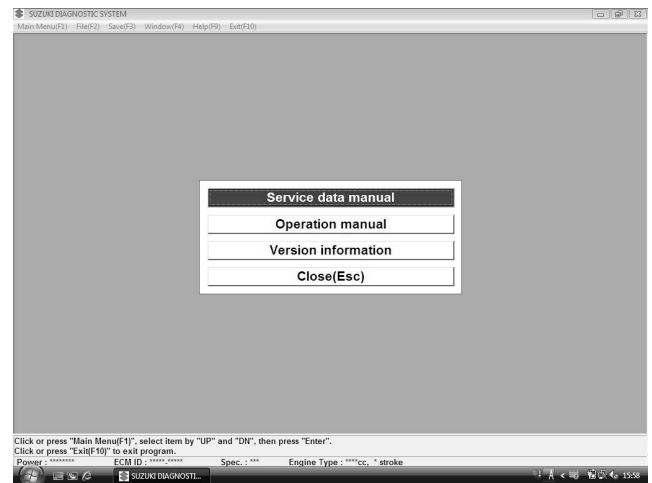

Fig.76
2. The following dialog box appears. (Fig.76) Click the “Service data manual” button.
2. Dialog box is shown. (Fig.76)
2. The dialog box (Fig.76) appears.